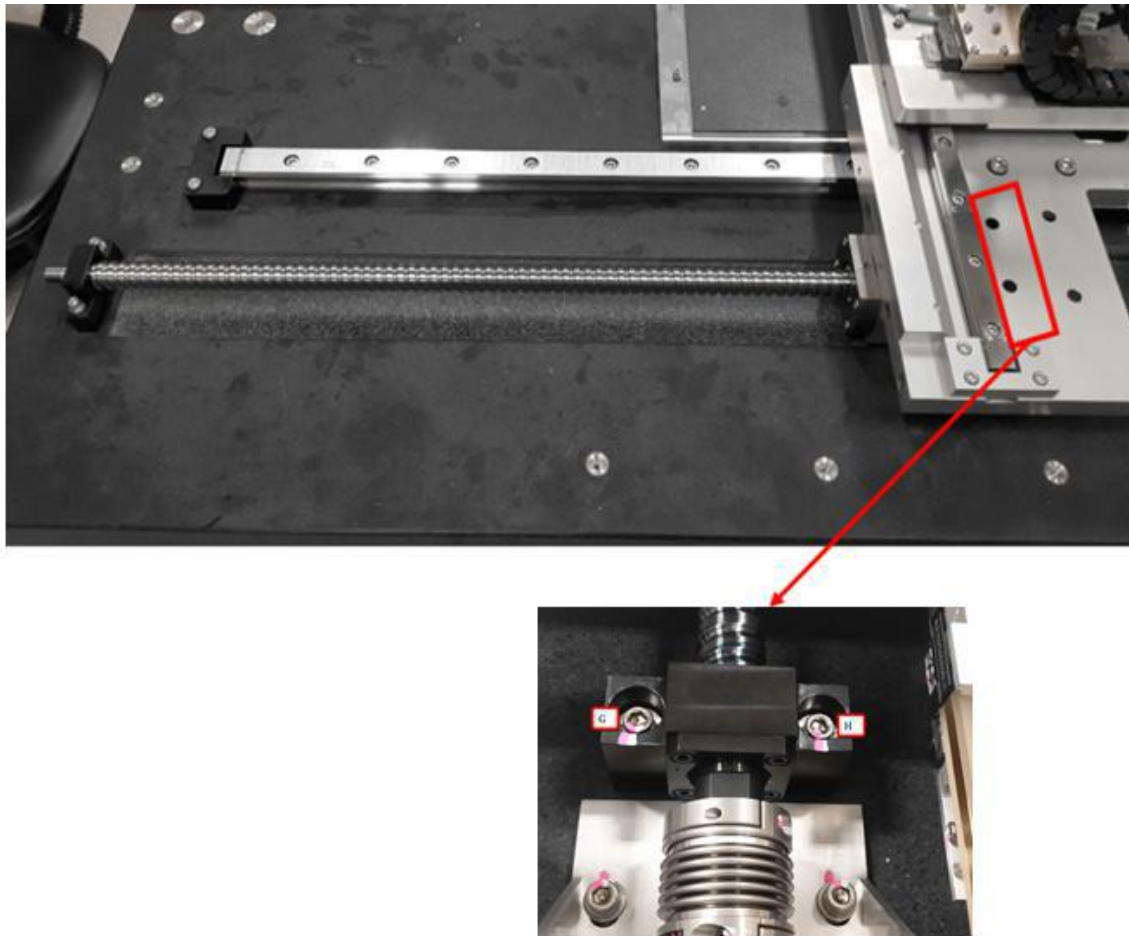

Figure 11 End Bearing Support
13. Move the stage to the minimum hard stop and tighten and tighten the screw “G” & “H” as shown in the Figure 11.